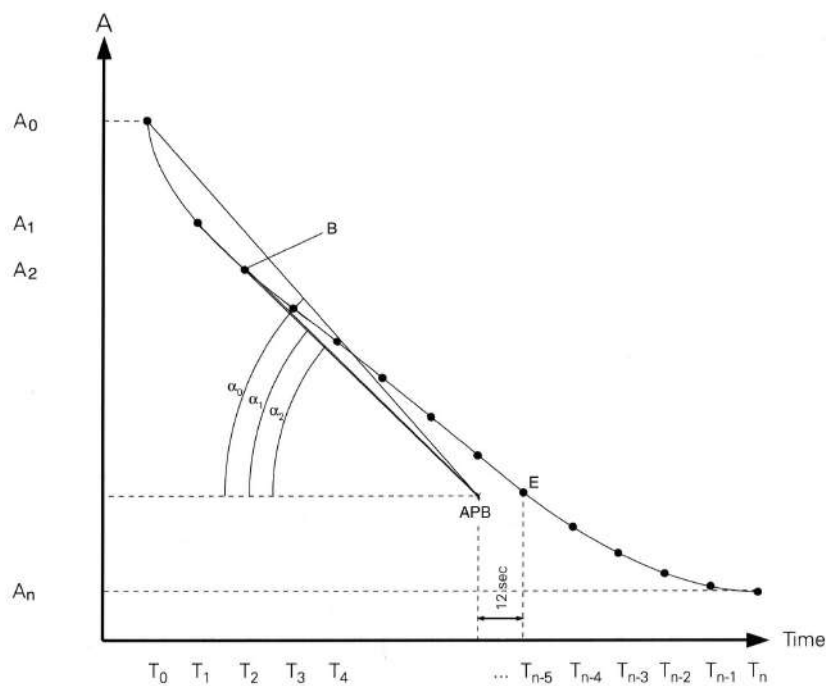

Fig. 8-21: Special case, beginning of the linear range
- ◆ Beginning of the linear range (see Fig. 8-21: Special case, beginning of the linear range, page 8-34)